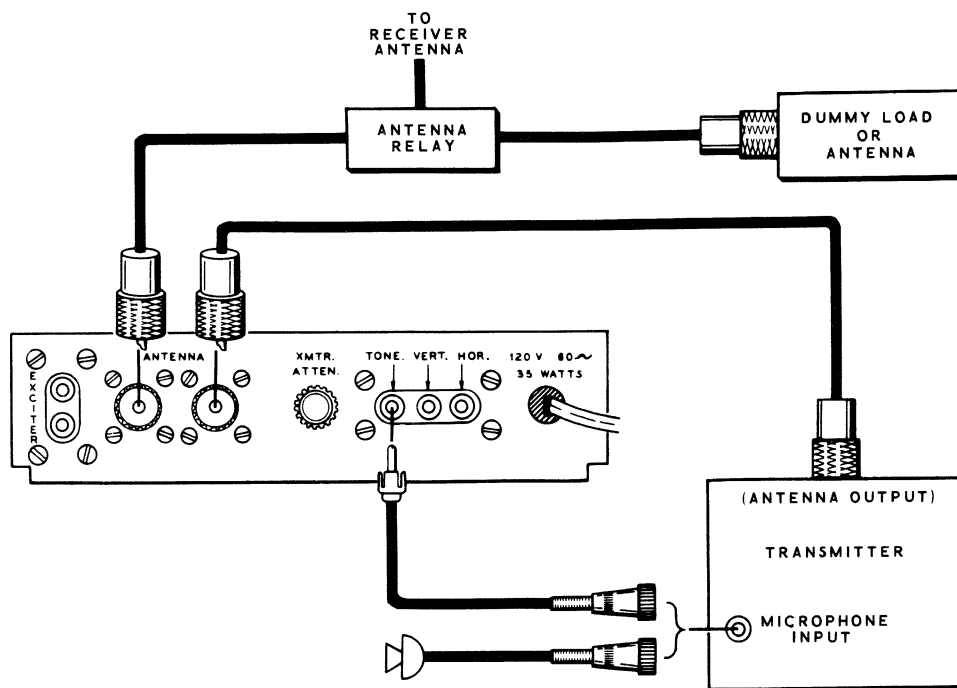

Figure 7
- () Connect the Scope as shown in Figure 7